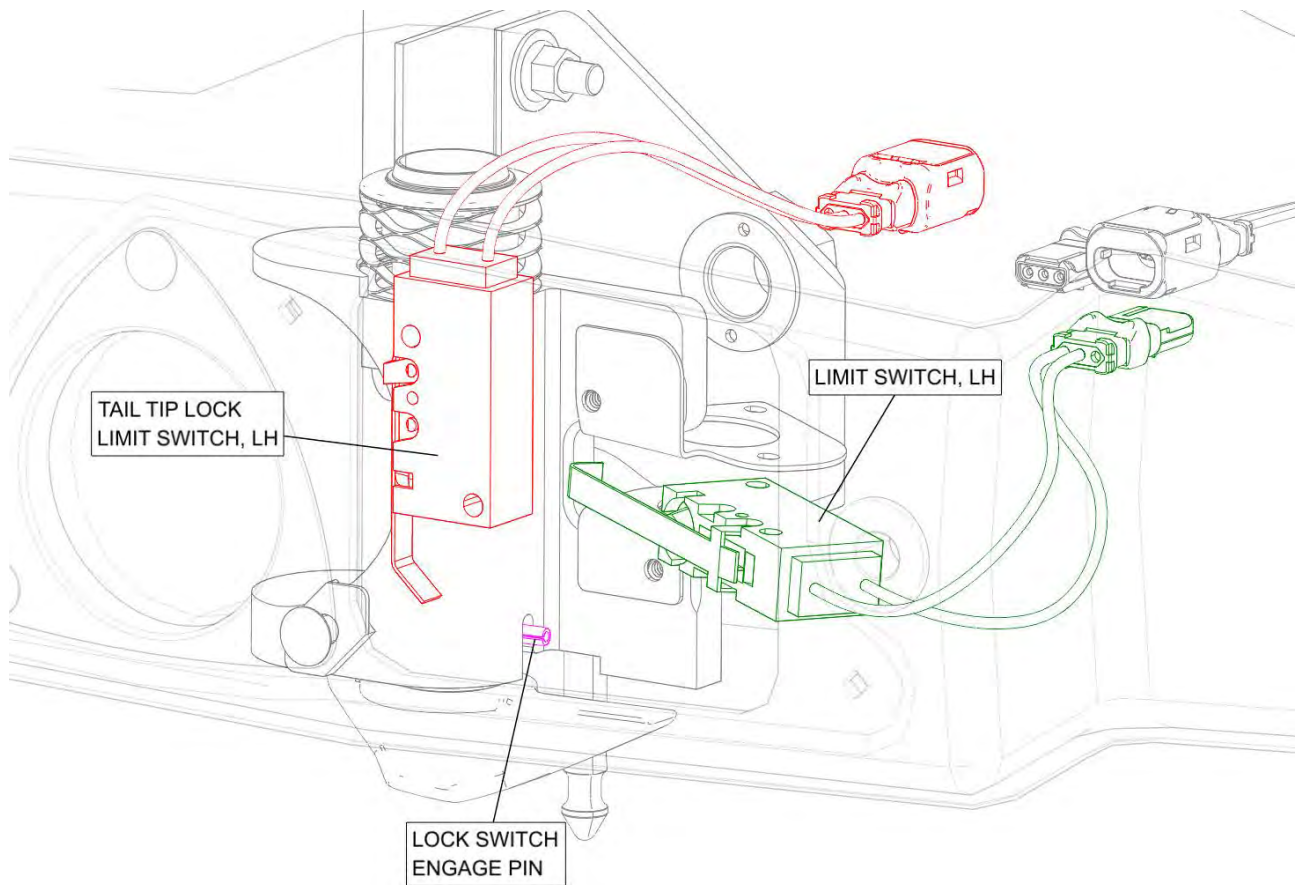

FIGURE 13-4
3. Unplug and remove limit switches from wiring harness. (See Figure 13-4.)